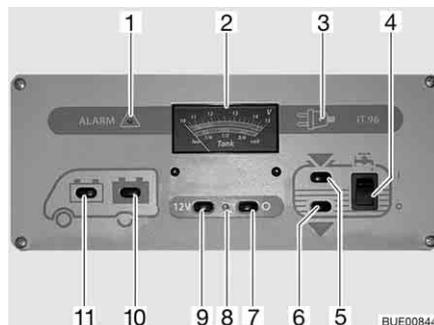

Fig. 106 Panel IT 96-2
The 12 V main switch (Fig. 106,7 and 9) switches the panel and the 12 V power supply to the living area on and off.
- Press switch (Fig. 106,9) "12 V": The 12 V living area power supply is switched on. The indicator lamp (Fig. 106,8) lights up green.
- Press switch (Fig. 106,7) "O": The 12 V living area power supply is switched off. The indicator lamp (Fig. 106,8) goes out.
With the V/tank gauge (Fig. 106,2), note the top scale. The gauge automatically lights up as soon as a switch is pressed.
- Press switch (Fig. 106,11) "🔌": The battery voltage of the starter battery is displayed.
- Press switch (Fig. 106,10) "🔌": The battery voltage of the living area battery is displayed.
The V/tank gauge is for the indication of the quantity of water or waste water. With the V/tank gauge (Fig. 106,2), use the bottom scale. The gauge automatically lights up as soon as a switch is pressed.
- Press switch (Fig. 106,5) : The volume of water is displayed.
- Press switch (Fig. 106,6) : The volume of waste water is displayed.
Switching on: ■ Press the upper part of the rocker switch (Fig. 106,4) "I": The water supply is ON.
Switching off: ■ Press the lower part of the rocker switch (Fig. 106,4) "O": The water supply is OFF.
The red "ALARM" warning light (Fig. 106,1) flashes as soon as the voltage of the living area battery falls below 11 V (measured under operation) and there is a risk of a total discharge.
The 12 V indicator lamp (Fig. 106,8) illuminates whenever the 12 V main switch (Fig. 106,9) is switched on.
The yellow 230 V indicator lamp (Fig. 106,3) illuminates whenever line voltage is available at the transformer/rectifier input.